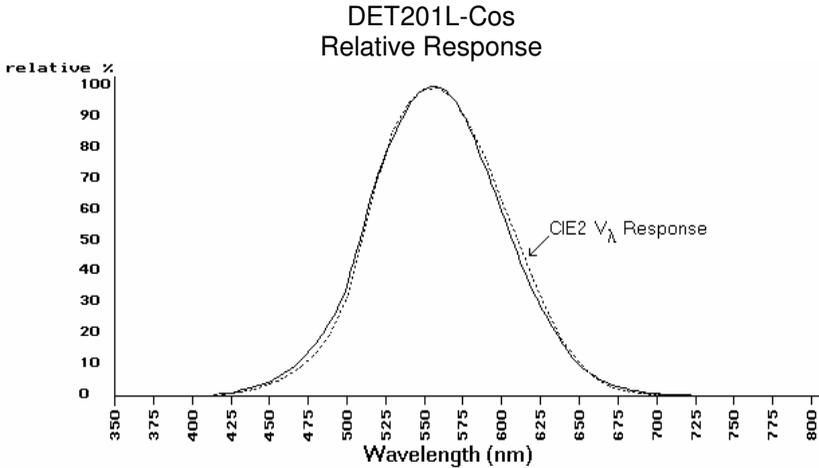

Figure 1
- Spectral Response: Refer Figure 1 and Section 6.